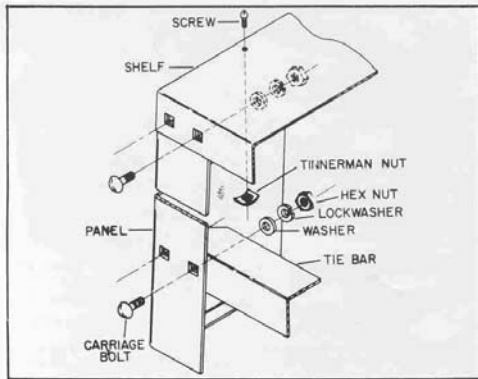

Fig. 9
1. Assemble the top shelf and the two braces to the two panels of the stand, as shown in Fig. 9, using the 16 carriage bolts, flat washers, lockwashers and nuts supplied.
2. Fasten the top shelf to the panels using the 4 screws and tinnerman nuts supplied, as shown in Fig. 9.